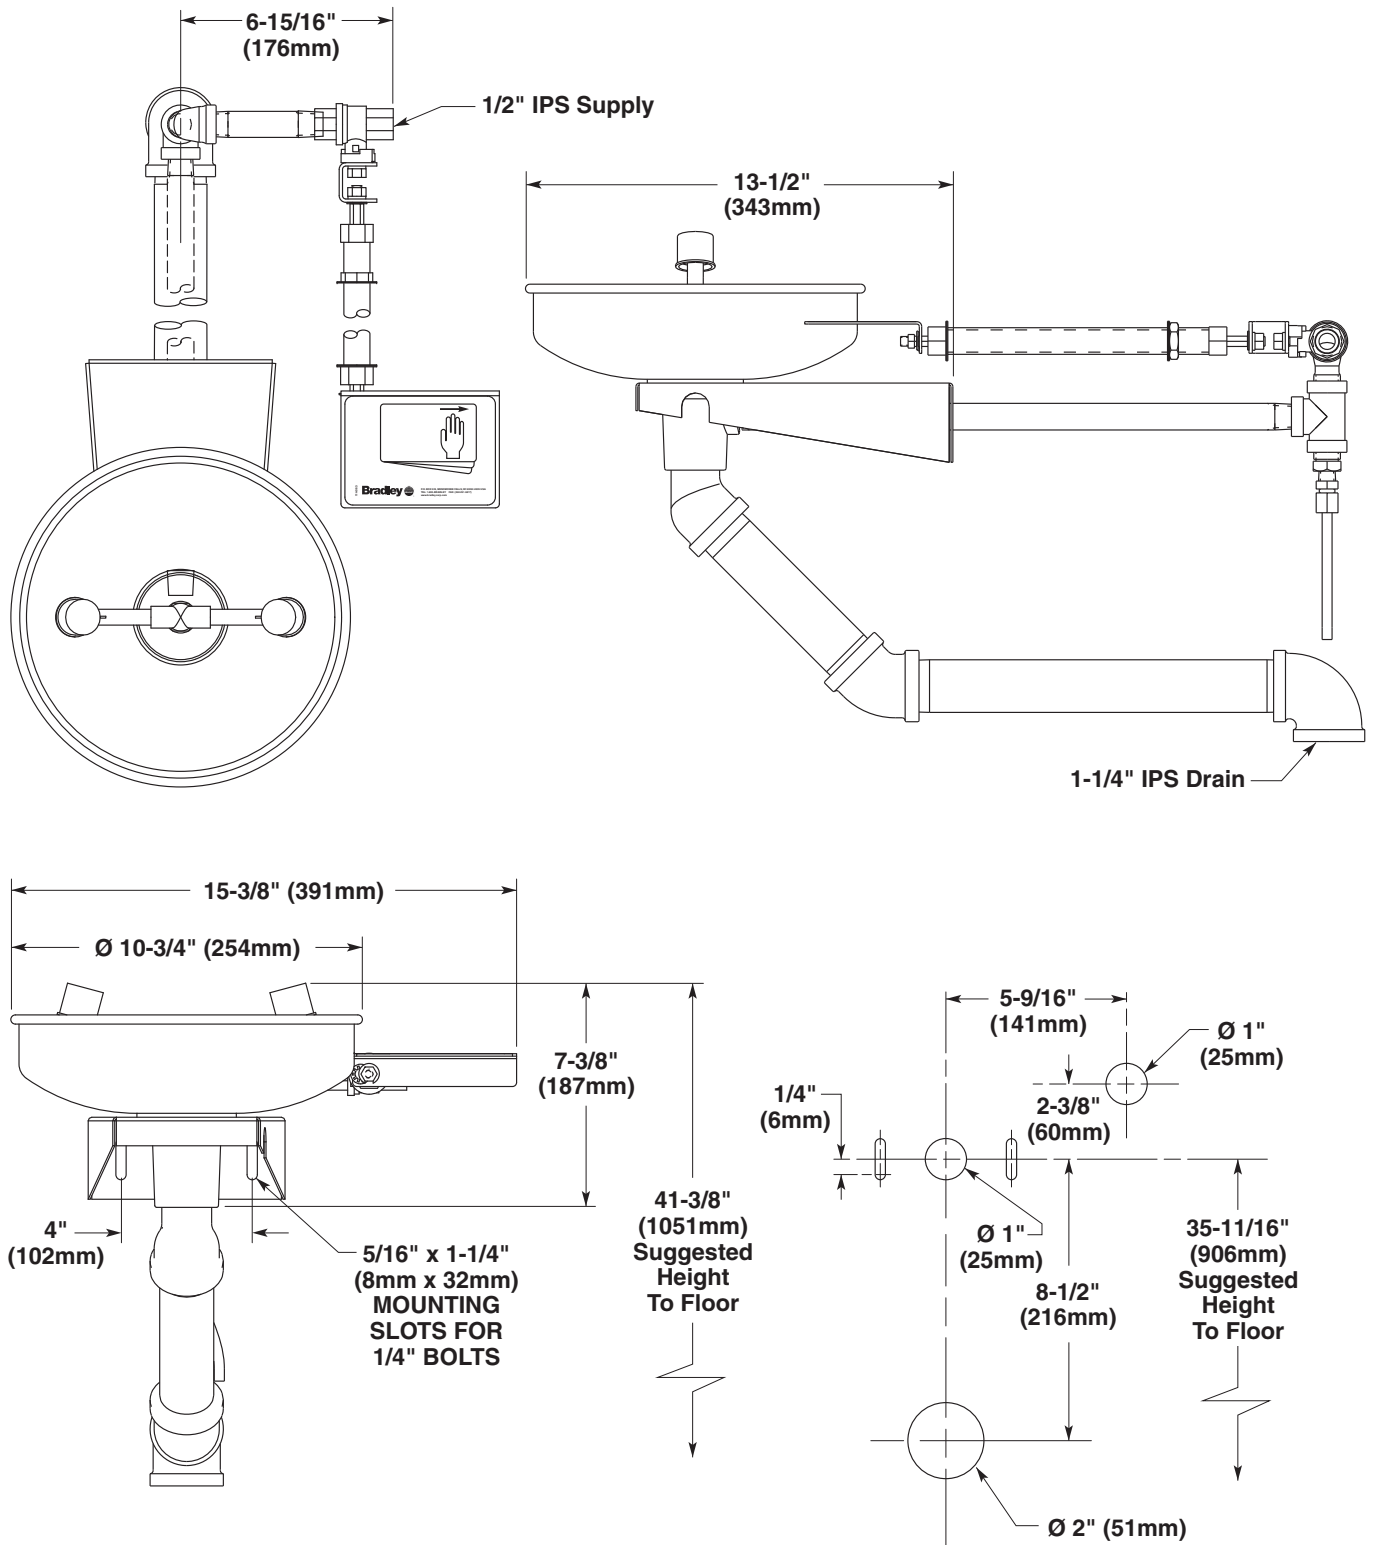

Figure 1
NOTE: The top of the eyewash heads should be 33"–45" (838mm–1143mm) from the floor. Refer to Figure 1 on page 3 for appropriate dimensions.
1. Drill supply, drain, and operating rod holes at the dimensions shown in Figure 1.